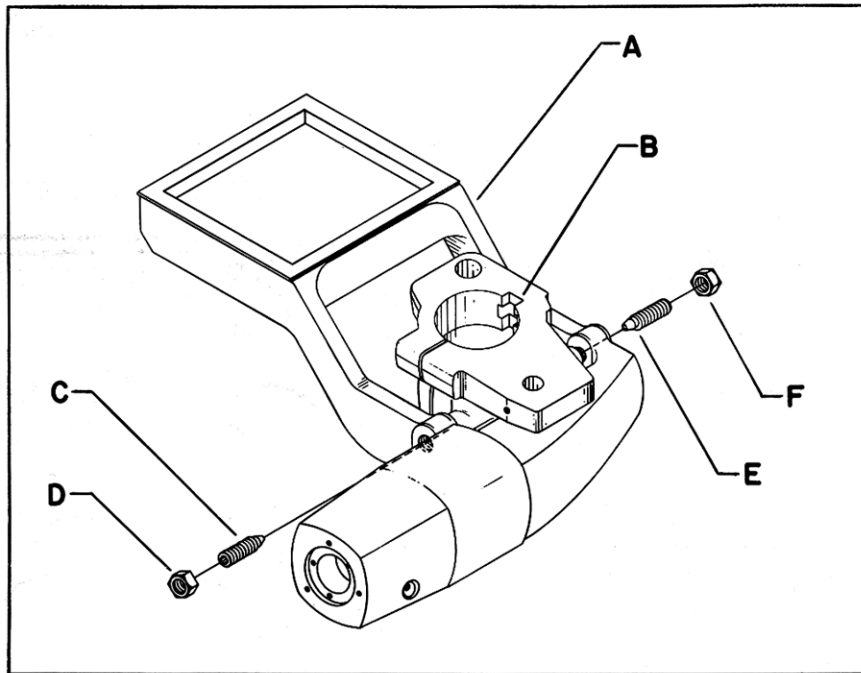

Fig. 12.
Before the grinder is placed into service, be sure the pivot screws are adjusted so that there is no play between the Spindle Housing and Motor Bracket Casting (A) Fig. 12, and the Column Sliding Bracket (B).
"Play" is removed by tightening the front concentric cone point pivot screw (C) Fig. 12, after loosening the jam nut (D). The rear eccentric cone point pivot screw (E) should not be disturbed when removing play, as this would throw the spindle out of parallel with the surface of the table.
The spindle can be adjusted in a vertical plane by turning the rear eccentric pivot screw (E) Fig. 12, always less than  $360^{\circ}$ . This is done to purposely tilt the grinding wheel slightly for wheel clearance when grinding a vertical plane surface, or to adjust the spindle to make it parallel with the table surface, as it should be for normal grinding.
After adjusting the spindle in a vertical plane, always lock the jam nut (F) Fig. 12, first on the rear eccentric pivot screw (E) and then remove all play by adjusting and locking the front pivot screw (C).